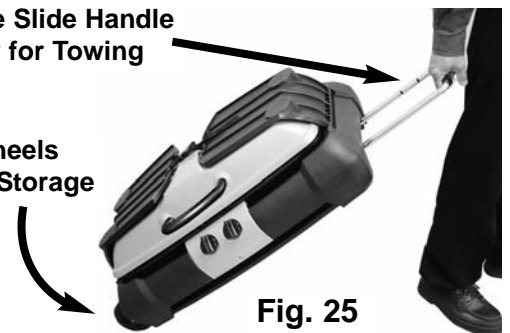

Fig. 25
- Grasp the Right side Handle Bar; lift Grill on wheels and roll the grill away to storage area. **(FIG. 25) DO NOT ATTEMPT TO CARRY THE GRILL BY GRASPING THE HOOD HANDLE**